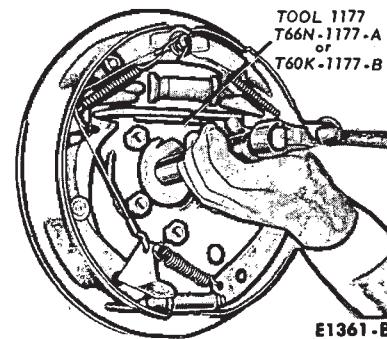

FIG. 12—Installing Rear Wheel Bearing Oil Seal
6. Install the new oil seal with the tools shown in Fig. 12. Wipe a small amount of oil resistant sealer on the outer edge of the seal before it is installed. Do not put sealer on the sealing lip.